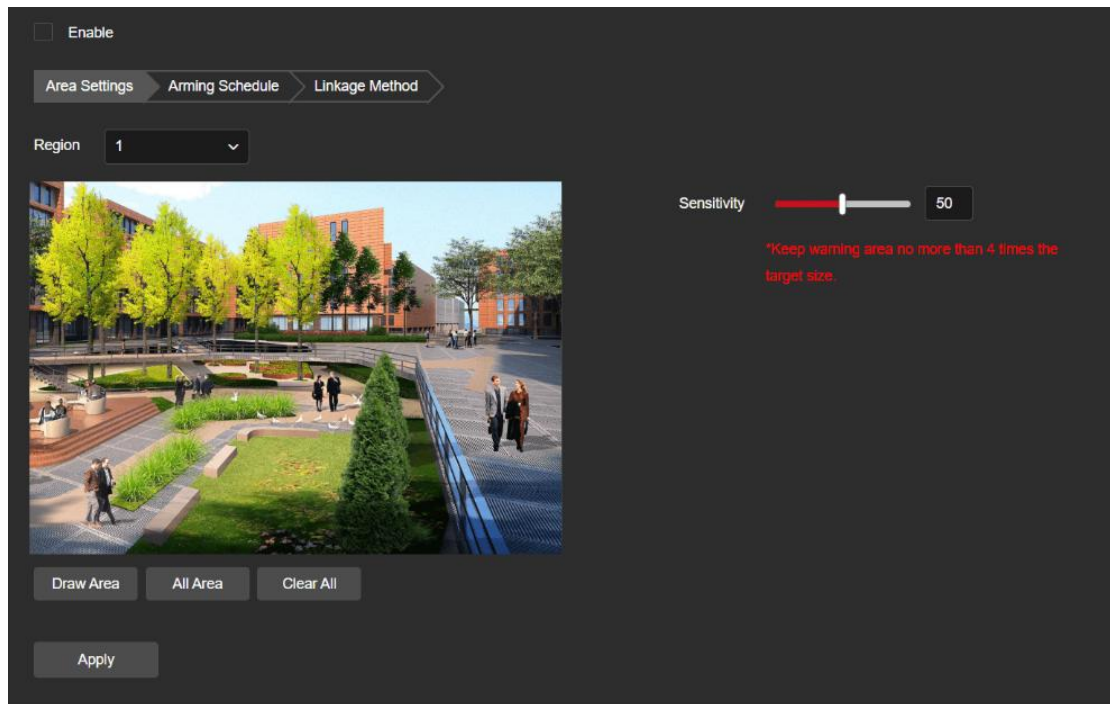

Figure 8-6-51
Step 1: In the main interface click on the "Configuration → Event → Smart Event→ Abandoned Object Detection" to enter the Abandoned Object Detection settings interface, as shown in Figure 8-6-51.